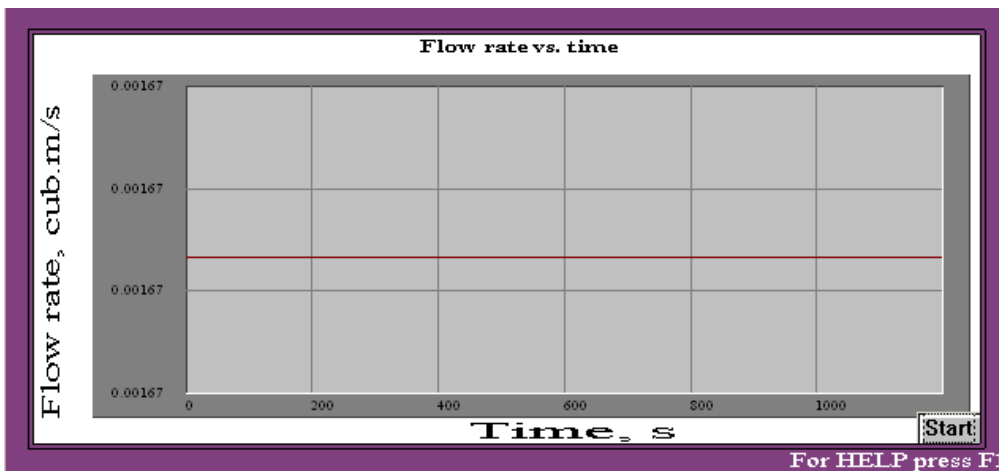

Figure 25.
1. Difference of pressure between inlet and outlet of pipeline is high enough, and flow rate is controlled by pumping capacity of the pump or controller setup only. This case corresponds to constant flow rate value (Figure 25).